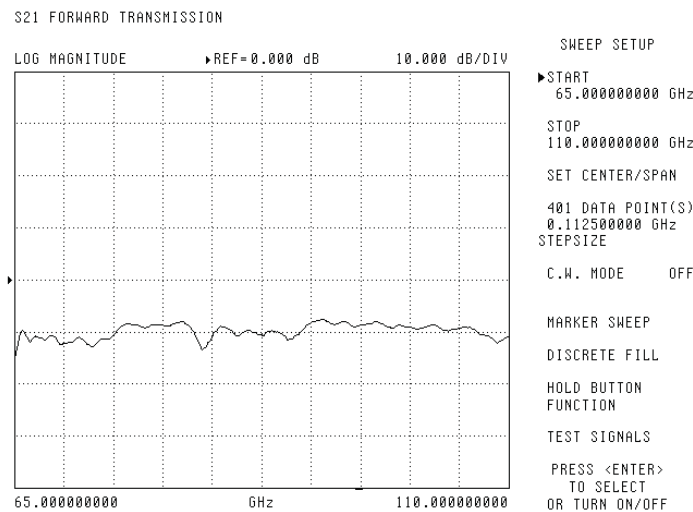

Figure 14-5. Normal S21 Display of MM Module Uncalibrated Transmission
- Step 7.* Ensure the display is similar to Figure 14-5 (next page).
Step 10. Ensure the display resembles Figure 14-5.